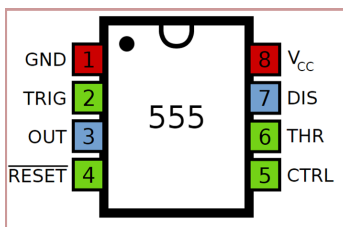
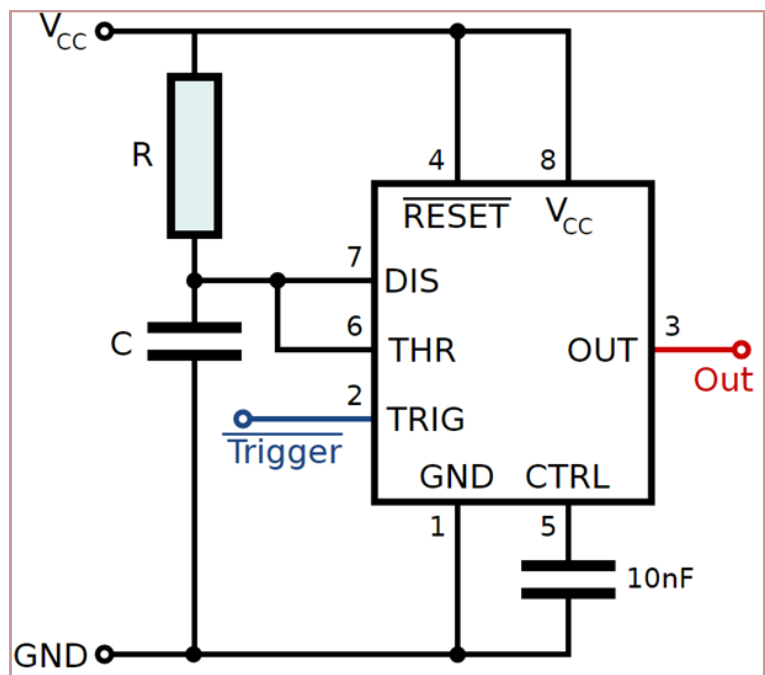

Figure 19. Pin out of 555 timer.
Figure 20. Schematic of monostable application of 555 timer.
3. The pin-out for the 555 timer is shown below in Fig. 19. The circuit you will be constructing is shown in Fig. 20. Build this circuit on a breadboard and try to keep connections short and neat. The 10 nF capacitor value is not critical and you can substitute the next higher value if you can't find 10 nF.